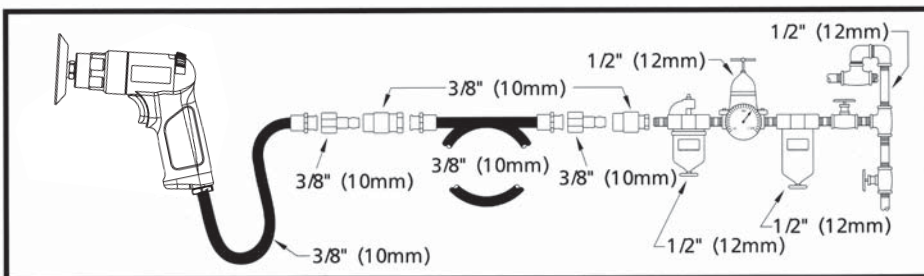

Figure 2 - Air Diagram
2. Supply tool with 90 PSI of clean, dry air. Higher pressure drastically reduces tool life. Connect tool to air line using pipe, hose and fitting sizes shown in Figure 2.
Do not use quick disconnect couplings at tool. See Figure 2 for correct set-up.